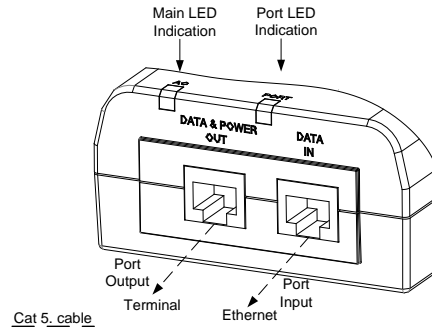

Figure 3: EEPoE Midspan Ports
- Connect the "DATA IN" jack (input) to the remote Ethernet network switch's Patch panel and the "DATA & POWER" jack (output) to the terminal (See Figure 3).